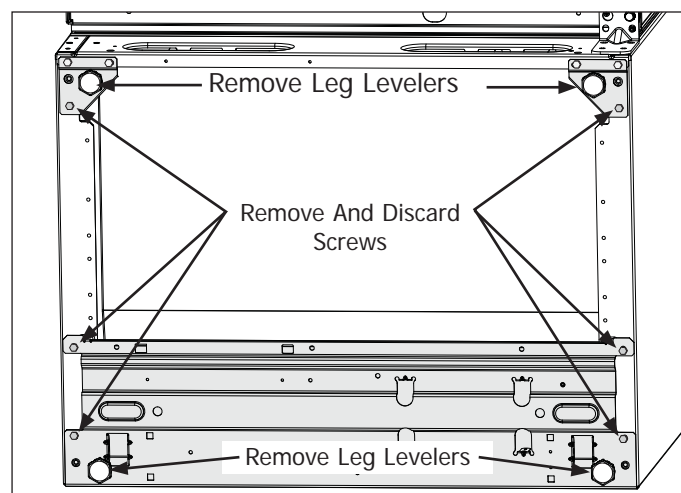

Figure 2-14.
- b. Remove (3) screws from each side and discard. (See Figure 2-14)